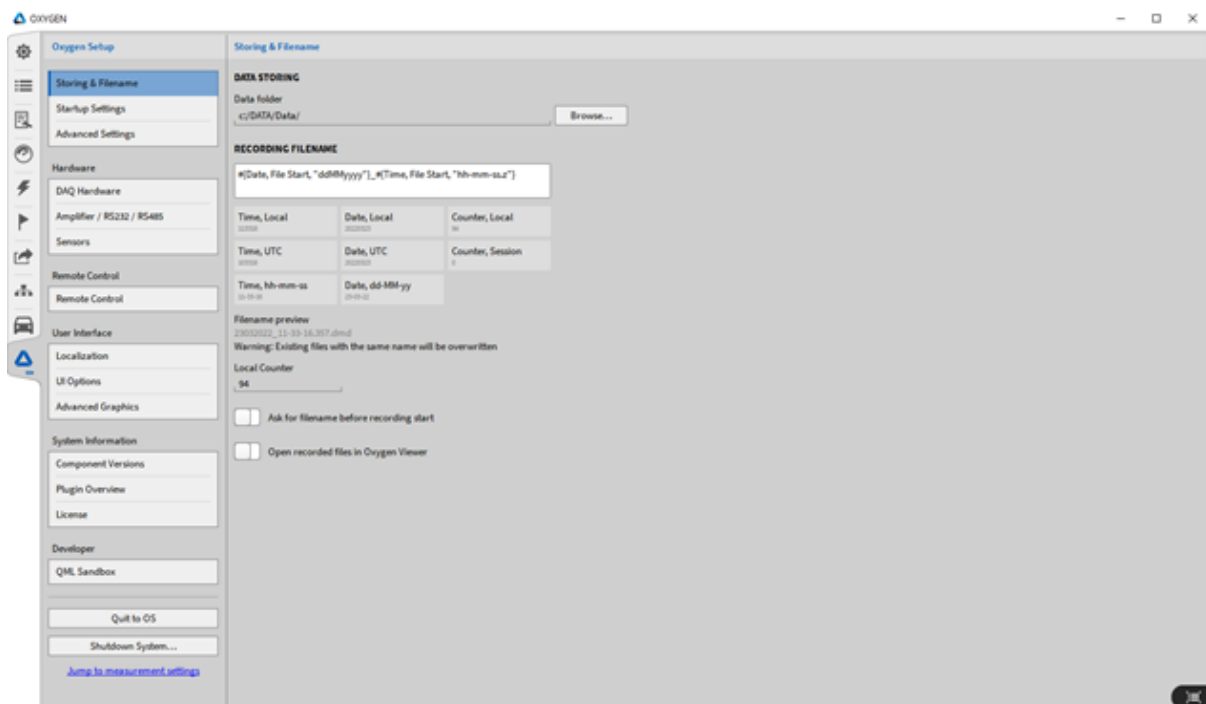

Fig. 6.1: System settings - overview
- Counter, Local: this counter is persistent, meaning it will continue to increase also after OXYGEN or the whole system will be restarted. This counter can be reset by entering a desired number (e.g. 0) in the field for the Local Session Counter, see Fig. 6.1.